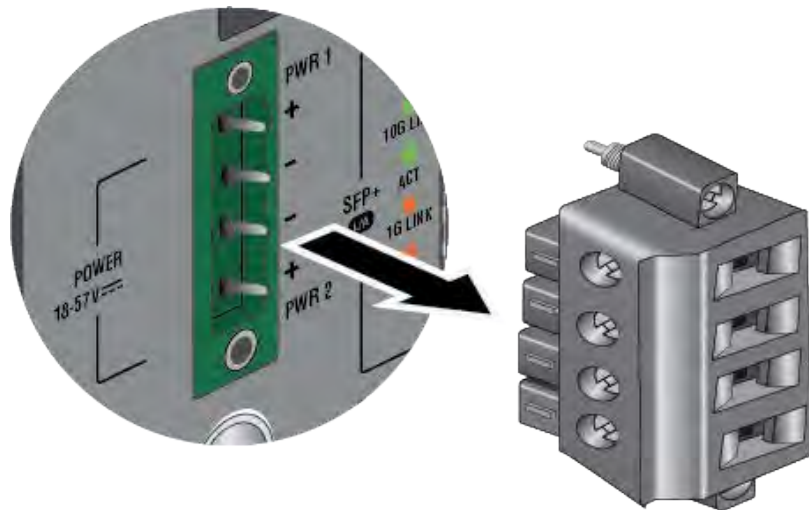

Figure 63. Removing the POWER Plug
4. Remove the POWER plug from the front panel. Refer to Figure 63.